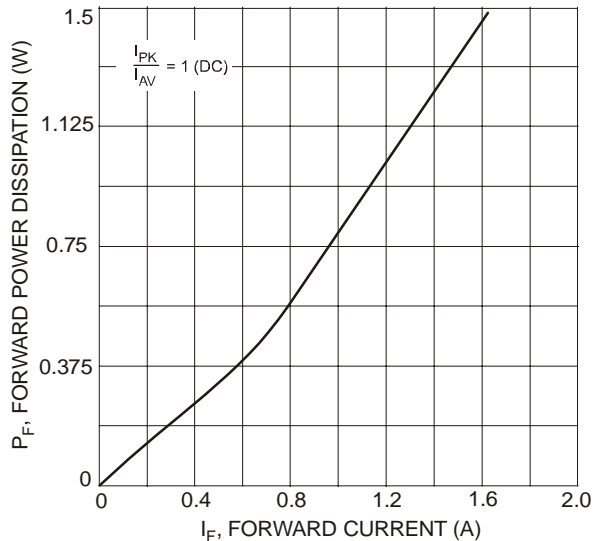

Fig. 5 Forward Power Dissipation
4. Measured with I_F = 0.5A, I_R = 1.0A, I_r = 0.25A. See figure 5.